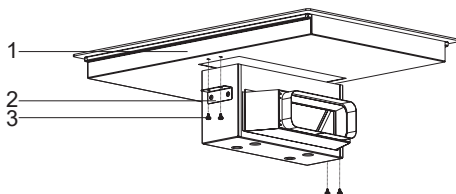

Fig. 37: Assembling the extractor hood inset
1. Install the hood with the bottom side towards the cooking field and screw the part together using the included fastening screws (Fig. 37).